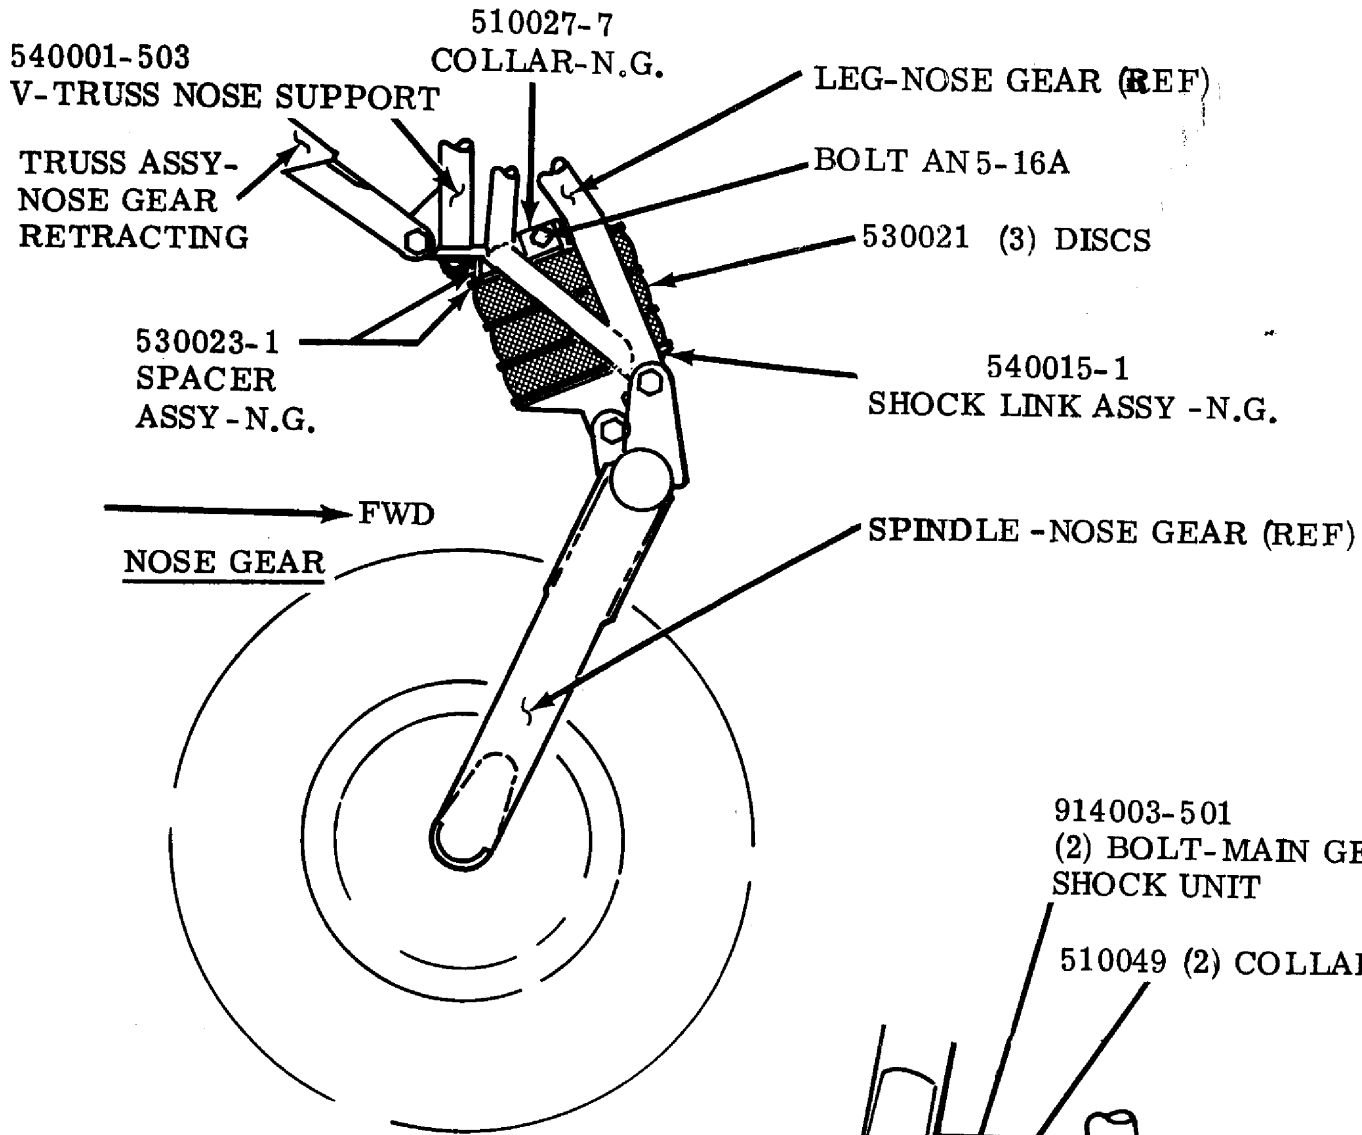
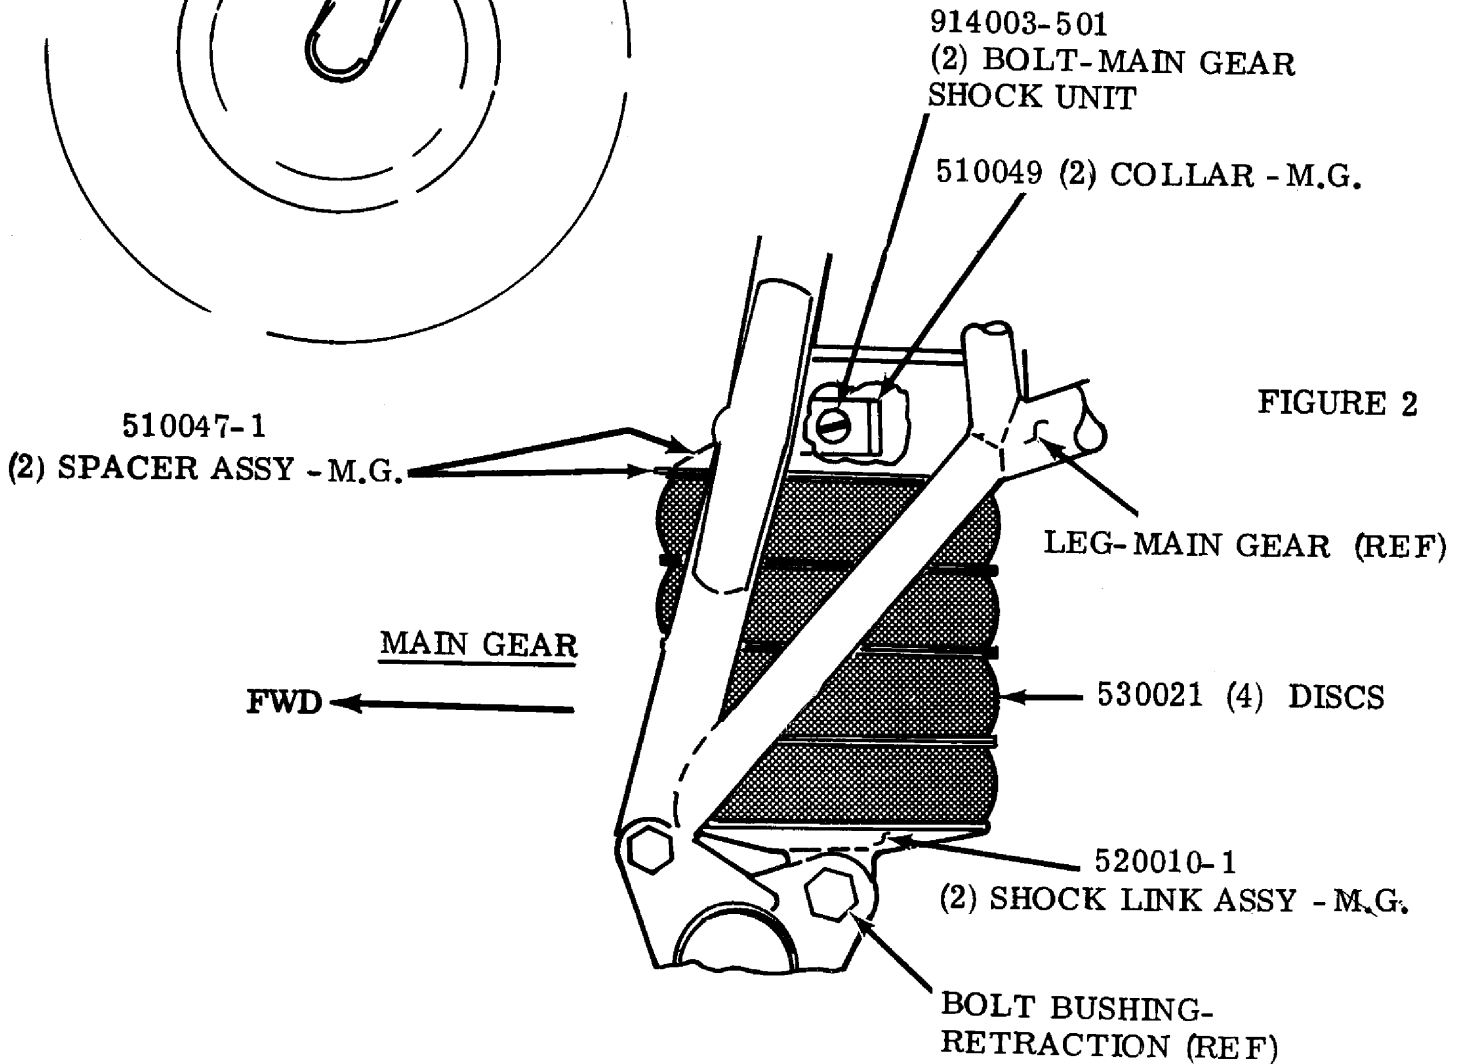

FIGURE 1
FIGURE 2
(See Figure 1.)
6. Install S.B. Kit No. M20-161-1 (See Figure 1).
- b. Install (3) Lord shock discs (P/N 530021) on shock link assembly (P/N 540015-1).
**INSTRUCTION II: MAIN GEARS SHOCK DISC RETROFIT (See Figure 2)**
3. Install S. B. Kit No. M20-161-2 (See Figure 2).